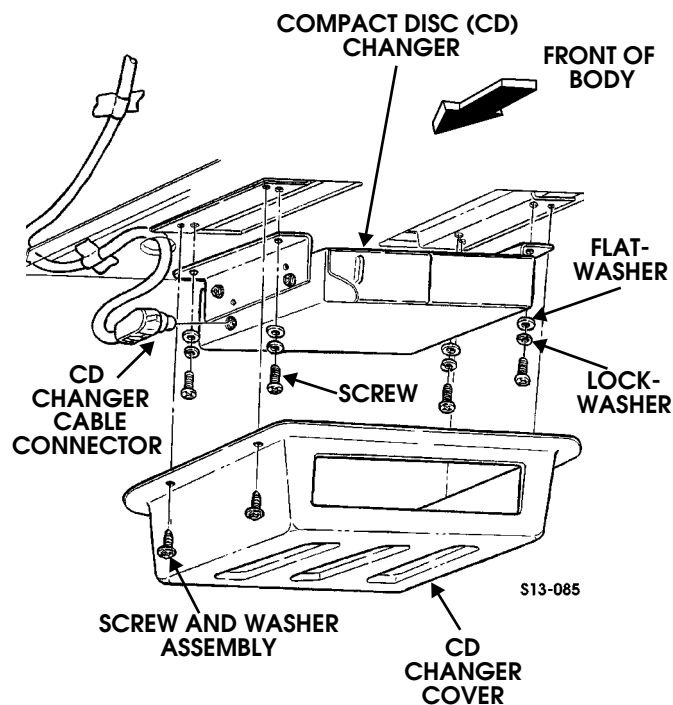

Figure 13-91: CD Changer
1. Remove the four screw and washer assemblies securing the compact disc (CD) changer cover to the roof (Figure 13-91).
1. Secure CD changer and bracket to roof with four flatwashers, lockwashers, and screws (Figure 13-91).